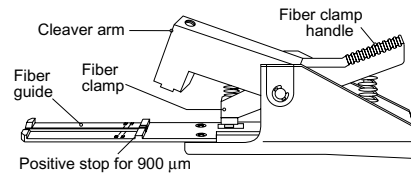

Figure 1
1.1 The FBC-001-NL Fiber Cleaver uses the score and snap method to quickly provide good quality fiber cleaves for fusion or mechanical splicing (Figure 1).